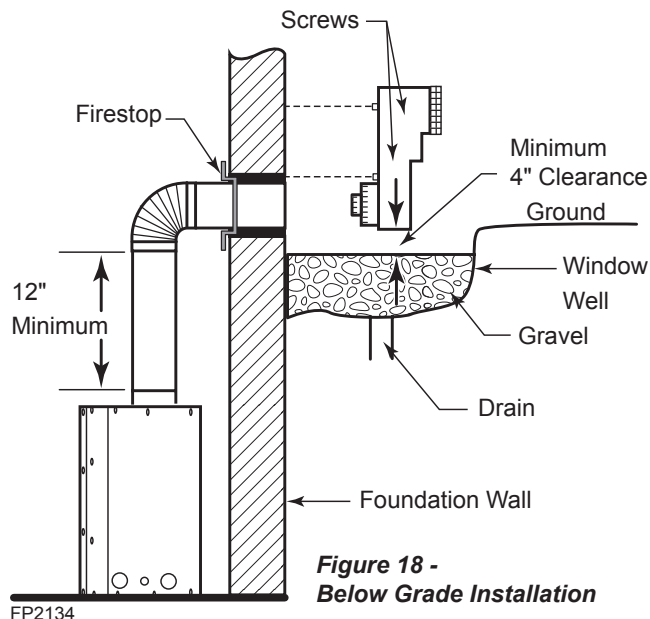

Figure 18 -
2. Remove soil to a depth of approximately 16" below base of snorkel. Install drain pipe. Install window well (not supplied). Refill hole with 12" of coarse gravel leaving a clearance of approximately 4" below snorkel. Figure 18
7. Level the soil so as to maintain a 4" clearance below snorkel. Figure 18